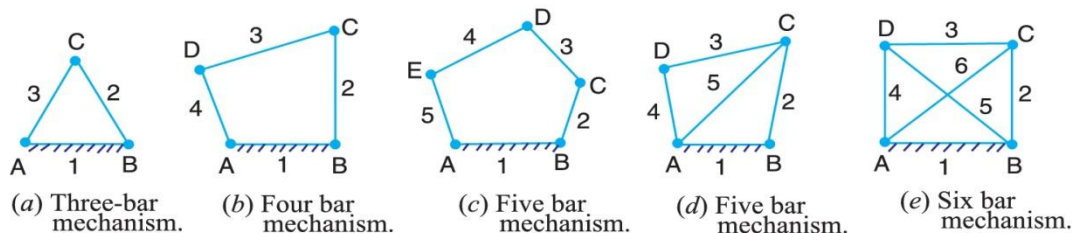

Fig. 5.16. Plane mechanisms.
1. The mechanism, as shown in Fig. 5.16 (a), has three links and three binary joints, *i.e.* $l = 3$ and $j = 3$.
2. The mechanism, as shown in Fig. 5.16 (b), has four links and four binary joints, *i.e.* $l = 4$ and $j = 4$.
3. The mechanism, as shown in Fig. 5.16 (c), has five links and five binary joints, *i.e.* $l = 5$, and $j = 5$.
4. The mechanism, as shown in Fig. 5.16 (d), has five links and six equivalent binary joints (because there are two binary joints at B and D , and two ternary joints at A and C), *i.e.* $l = 5$ and $j = 6$.
5. The mechanism, as shown in Fig. 5.16 (e), has six links and eight equivalent binary joints (because there are four ternary joints at A , B , C and D), *i.e.* $l = 6$ and $j = 8$.
- (a) When $n = 0$, then the mechanism forms a structure and no relative motion between the links is possible, as shown in Fig. 5.16 (a) and (d).
- (b) When $n = 1$, then the mechanism can be driven by a single input motion, as shown in Fig. 5.16 (b).
- (c) When $n = 2$, then two separate input motions are necessary to produce constrained motion for the mechanism, as shown in Fig. 5.16 (c).
- (d) When $n = -1$ or less, then there are redundant constraints in the chain and it forms a statically indeterminate structure, as shown in Fig. 5.16 (e).